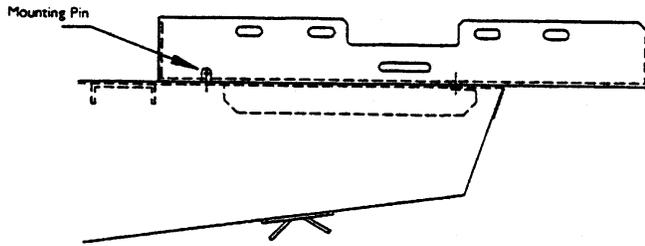

Figure 3
Instructions for cradle installation on each of the major planter groups are shown beside Figures 3 through 8. General precautions for all planter types are as follows:
2. Orient SmartBox® cradle as shown in Figure 3.